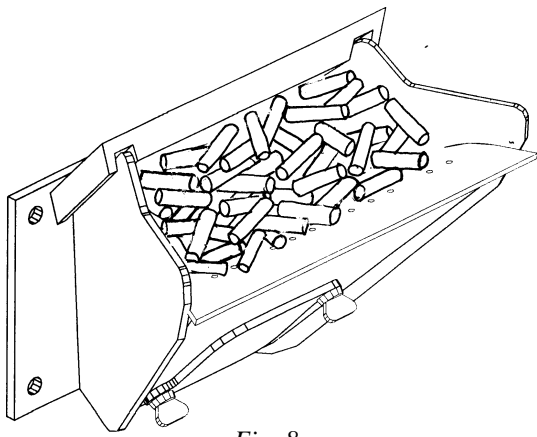

Fig. 8
**Fill the burn pot** with pellets to a level just short of overflowing, fig. 8.